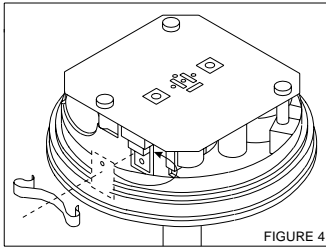
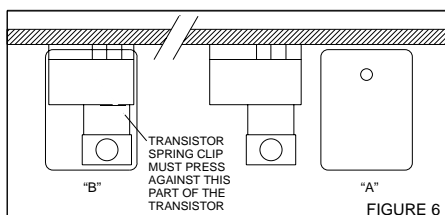

FIGURE 4
FIGURE 6
**FIGURE 4.** Slightly bend the transistor on the power supply away from the transistor mounting boss. Slip the Cho-Therm insulator behind the transistor with the hole directed towards the top (See Figure 6"A"). Position the top of the Cho-Therm insulator against the circuit board of the power supply, making sure that some of it shows below the transistor (See Figure 6"B"). It is important that the transistor does not contact the transistor mounting boss at any place, to prevent a damaging electrical short circuit.